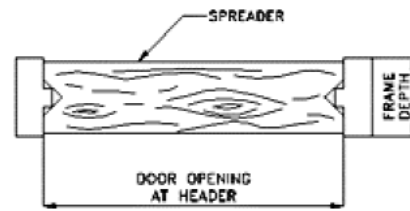

Figure 13
3. Spreader: The typical wood spreader must be square and fabricated from lumber no less than 1 in. (25.4 mm) thick. Correct length is the door opening width between the jambs at the header (i.e. single door 3 ft. 0 in. - 3 ft. 6 in. [914mm - 1067 mm]). Cut clearance notches for frame stops. Spreader must be nearly as wide as frame depth for proper installation. Do not remove spreaders until the frames are set permanently in the wall. (Figure 13)